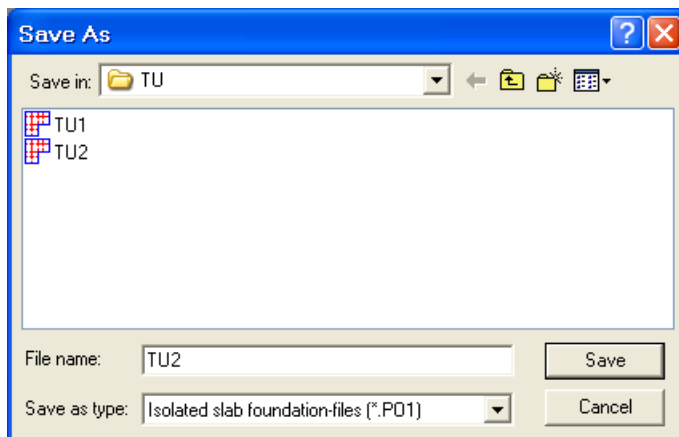

Figure 13-37 "Save as" dialog box
- Choose "Save project as" command from "File" menu of *ELPLA-Data*. The following "Save as" dialog box appears, Figure 13-37